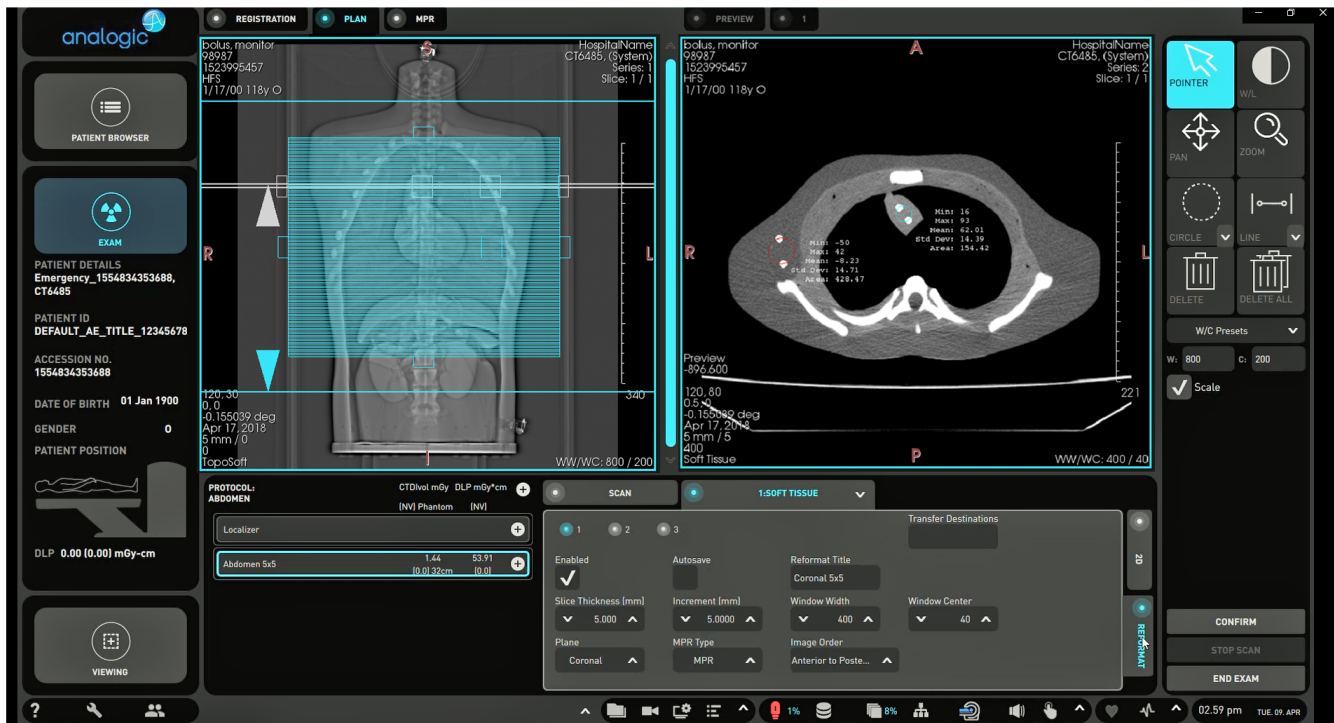

FIGURE 5.33 Preview Image
4. Select CONFIRM to start the scan. The PREVIEW image appears (FIGURE 5.33).